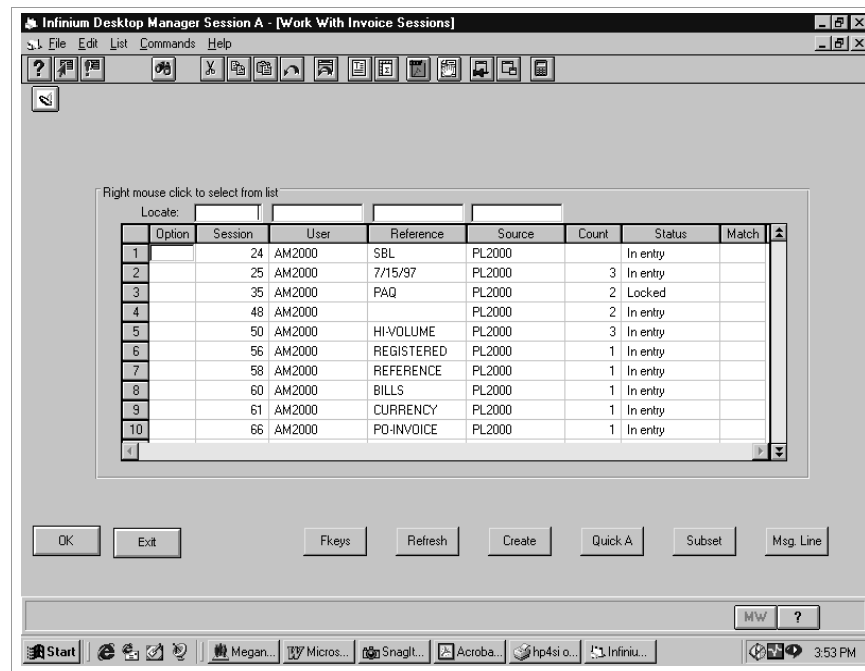

Figure 7-1: Work With Invoice Sessions screen
- 2 Select *Work with invoice entry [WWI]*. The system displays the screen shown in Figure 7-1.